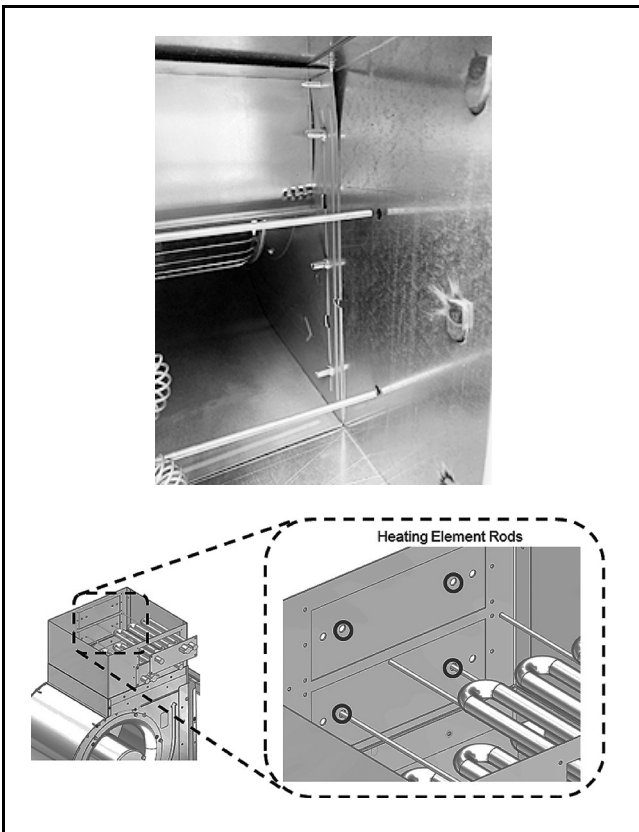

Fig. 9 Electric Heat Element Installed
5. Slide in the heating element rods into the holes in the rear of the heater collar. (See Fig. 9.)